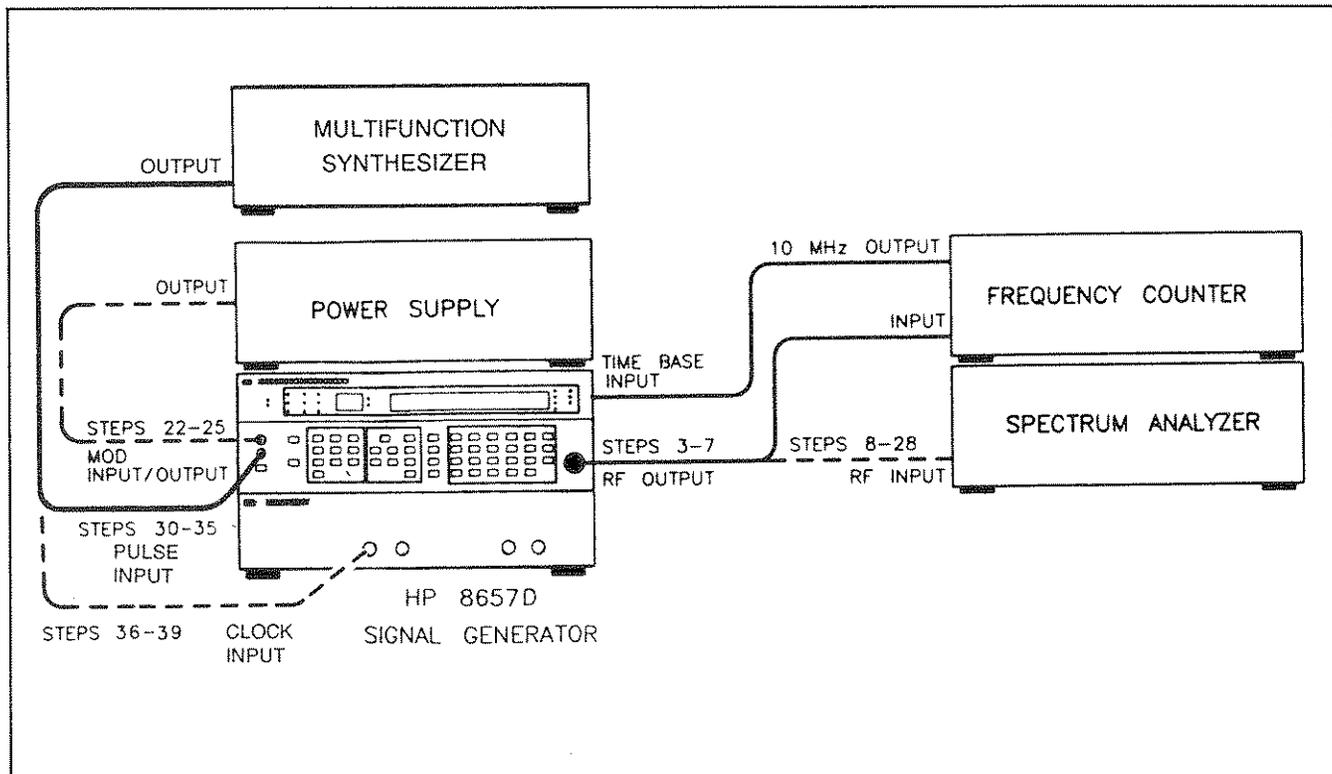

Figure 3-8. Test Setup for Basic Functional Checks
3. Connect the RF OUTPUT of the HP 8657D to the input of the frequency counter, and the 10 MHz reference output from the frequency counter to the TIME BASE INPUT located at the rear of the HP 8657D as shown in Figure 3-8. The two instruments are now locked to the same time base.
8. Connect the RF OUTPUT of the HP 8657D to the input of the spectrum analyzer as shown in Figure 3-8.
24. Connect a power supply to the MODulation INPUT/OUTPUT Connector of the HP 8657D as shown in Figure 3-8. Set the power supply for a +1 Vdc output and switch the voltage line on. Notice the LO EXT annunciator will remain on. The carrier frequency displayed on the Spectrum Analyzer should move three divisions to the right. The carrier frequency is offset by 60 kHz.
33. Connect the multifunction synthesizer to the HP 8657D PULSE INPUT, as shown in Figure 3-8.